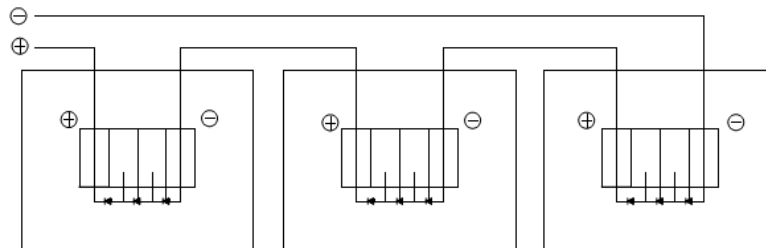
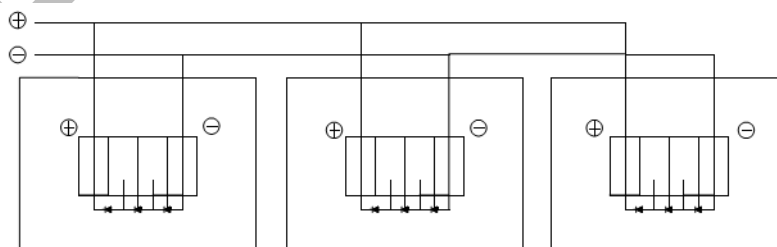

图 11 串联增加电压
图 12 并联增加电流
- 2) 为了确保系统的正常运行, 在将组件连接到电池或者其他组件时, 请注意观察电缆线的极性(图 11 和 12)。如果连接不正确, 旁路二极管可能会损坏。
In order to ensure the normal operation of the system, make sure the modules polarity is observed (Fig.11 and Fig.12) when the modules are connected to the battery or other modules. Reverse polarity might cause damage to the protective diodes.
- 4) 组件串联连接电压累加。从一块组件的正极接线端连接到下一块组件的负极接线端。图 11 显示的是组件串联连接。
PV modules can be wired in series to increase voltage. Connect wires from the positive terminal of one module to the negative terminal of the next module. Fig.11 shows modules connected in series.
- 5) 组件并联连接电流累加。从一块组件的正极接线端连接到下一块组件的正极接线端。图 12 显示的是组件并联连接。
Connect PV modules in parallel to increase current. Connect wires from the positive terminal of one module to the positive terminal on the next module. Fig.12 shows modules connected in parallel.
Fig. 11 in series to increase voltage
Fig. 12 in parallel to increase current